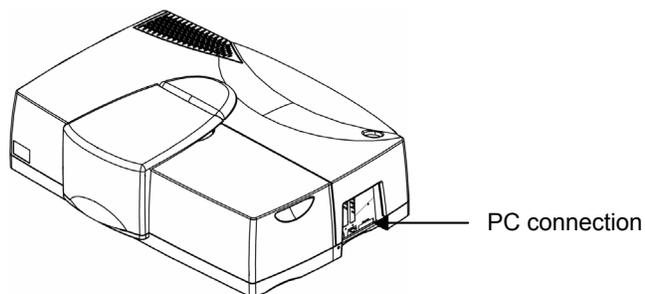

Figure 10 PC Connection
- The PC is connected using the connection marked COMPUTER on the right side of the instrument, as shown in Figure 10.